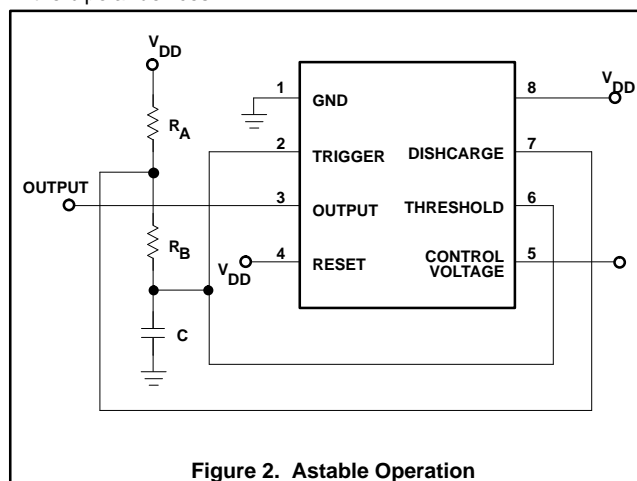

Figure 2. Astable Operation
2. Astable timing is calculated using the following equation: $f = \frac{1.38}{(R_A + 2R_B)C}$. The components are defined in Figure 2.
Although the supply current consumed by the ICM7555 device is very low, the total system supply can be high unless the timing components are high impedance. Therefore, high values for R and low values for C in Figures 2 and 3 are recommended.
If the circuit is connected as shown in Figure 2, it will trigger itself and free run as a multivibrator. The external capacitor charges through R_A and R_B and discharges through R_B only. Thus, the duty cycle (D) may be precisely set by the ratio of these two resistors. In this mode of operation, the capacitor charges and discharges between $1/3 V_{DD}$ and $2/3 V_{DD}$. Since the charge rate and the threshold levels are directly proportional to the supply voltage, the frequency of oscillation is independent of the supply voltage.